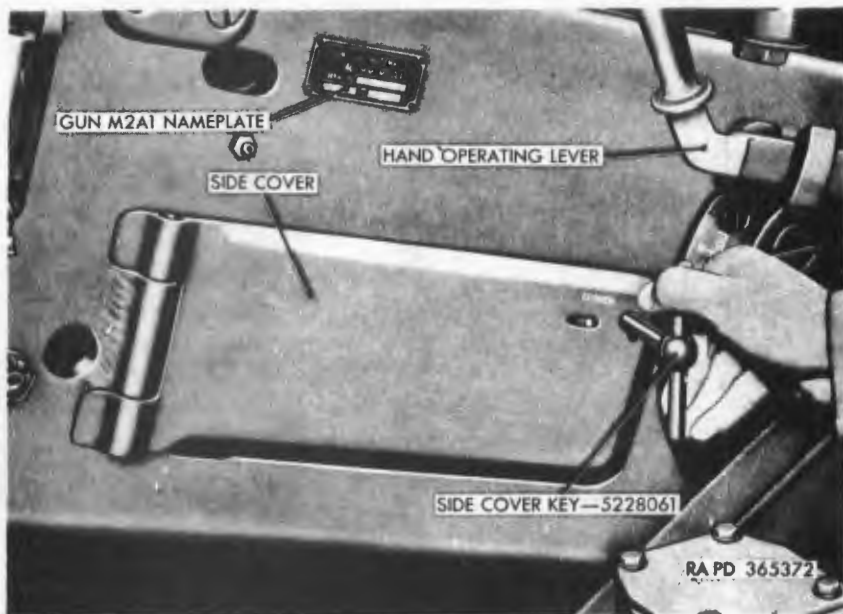

Figure 301. Opening or locking side cover.
- (d) Open side cover (fig. 301) by inserting side cover key 5228061, pressing key inward, and rotating clockwise. Secure cover in the open position.
- (i) Close and lock side cover (fig. 301), making sure that cover is locked.